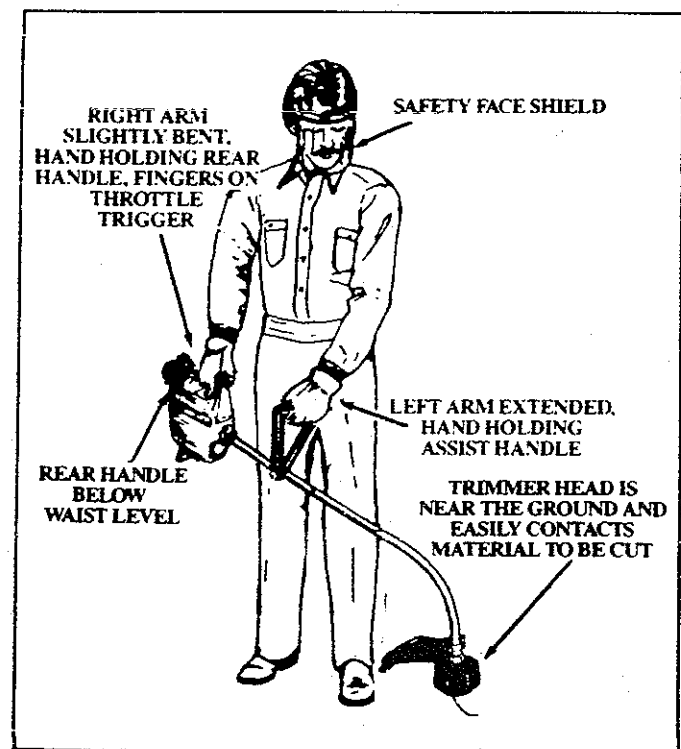

Figure 6
5. OPERATING POSITION – Figure 6
- Before starting the Engine, stand as shown in Figure 6 and check for the following: